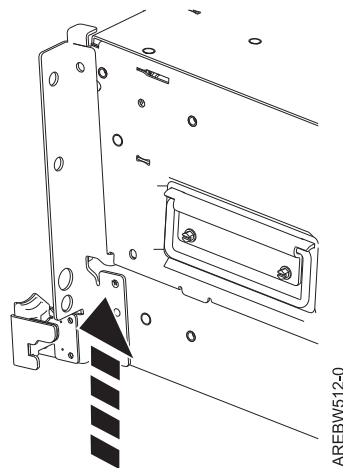

Figure 26. Move the bracket up to engage the tab
- c. Move the bracket up to engage the tab as shown in Figure 26.